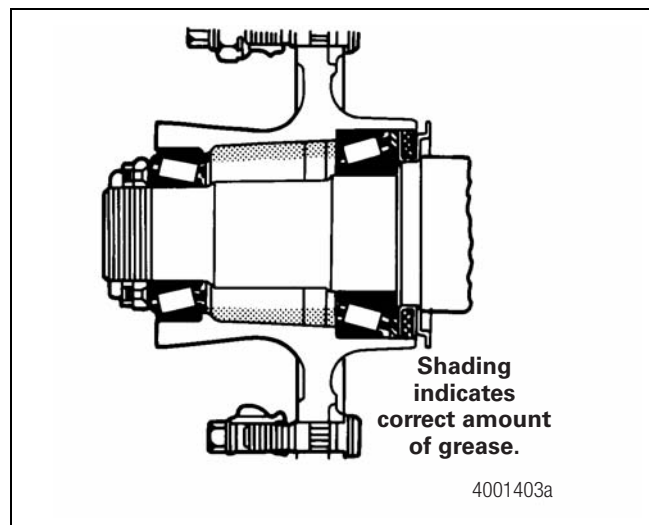

Figure 5.7
6. For optional grease-lubricated wheel ends, pack the areas of the hub between the two bearings with Meritor specification O-617-A or O-617-B grease up to the smallest diameter of the bearing cups. Figure 5.7.